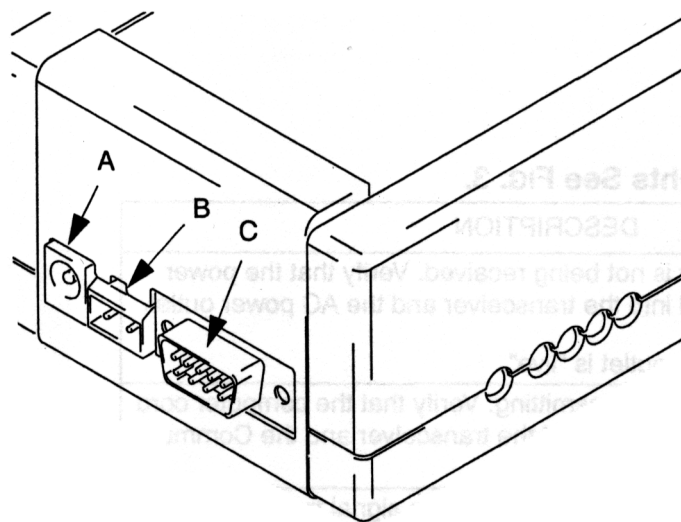
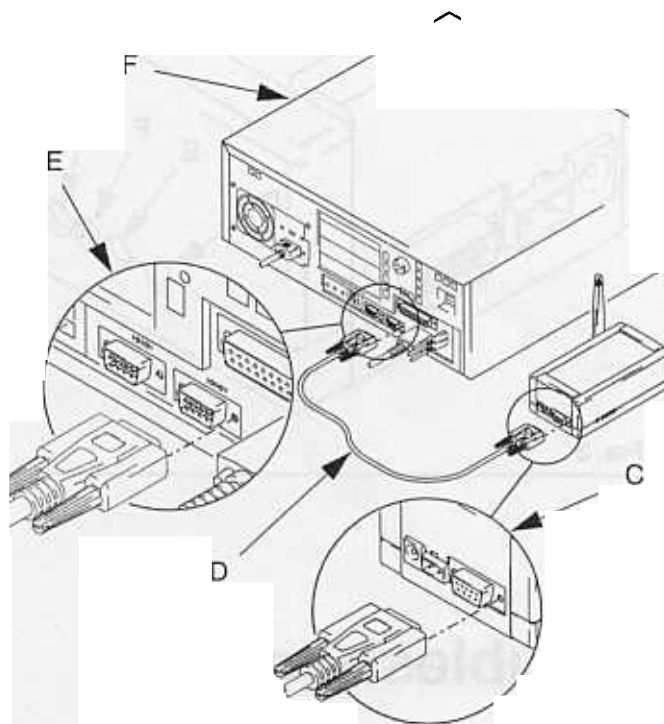

FIG. 1
FIG. 2
Plug the PC Receiver into a 110 VAC grounded outlet and into the power outlet of the repeater or wall buster (A). See Fig. 1.
2. Plug the power cord into the transceiver power inlet (A) and into a grounded 120V AC power source. The green power light (D) will illuminate indicating the transceiver is on. See Fig. 1.
1. Plug the PC (D) cord into an open communications port (E) of the PC (F) running the Matrix software. See Fig. 2.
2. Insert the transceiver end of the cord (D) from the PC into the PC transceiver plug (C). See Fig. 1 and Fig. 2.